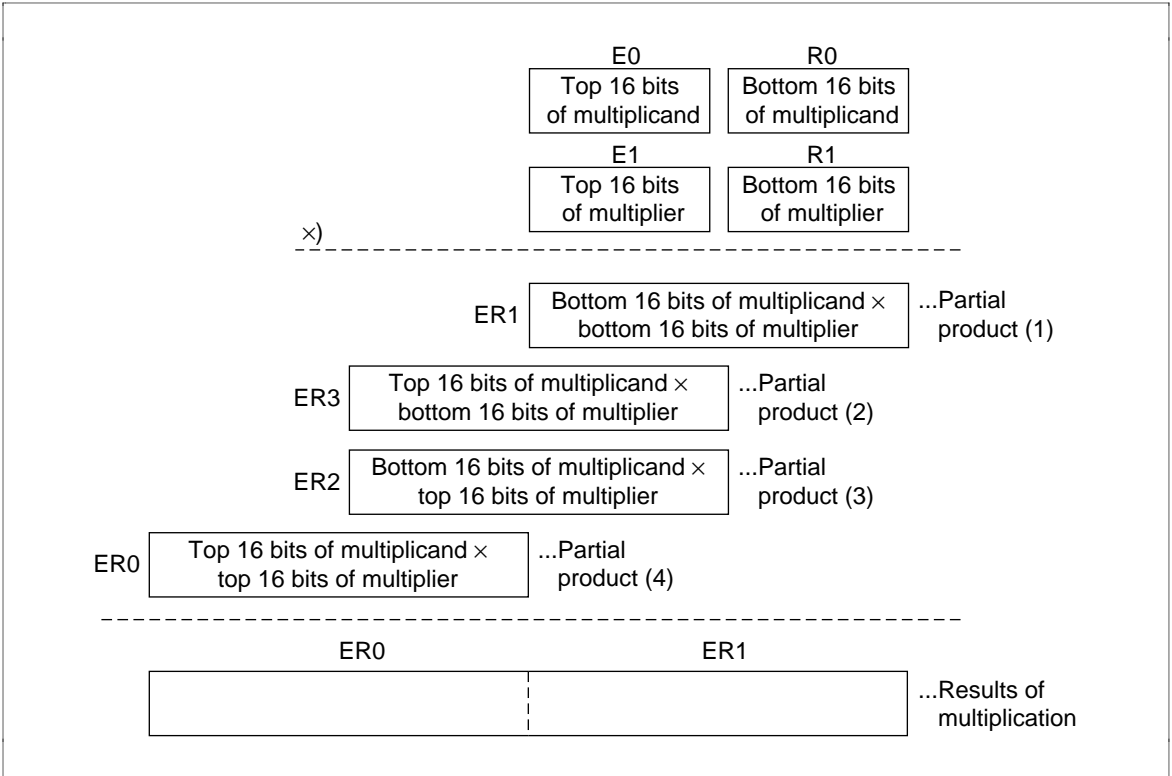

Figure 4.34 Multiplication
- The partial products of two 16-bit binary numbers are found using the multiplication instruction (MULXU.W) and the results of multiplication are then integrated to perform 32-bit binary multiplication, as shown in figure 4.34.